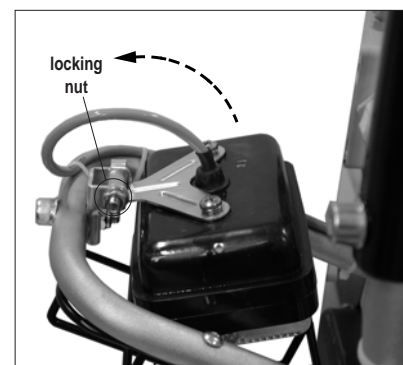

FIG. 14b
### 6.1.3) Changing worklight bulbs (Ref. to Fig. 14b-d)
- Loosen the locking nut (Fig. 14b).